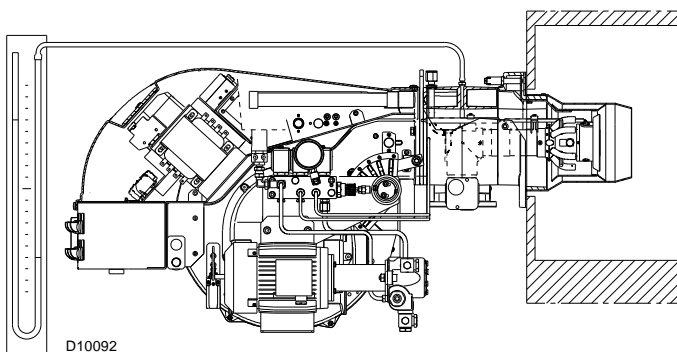

Fig. 46
- Fit a U-type manometer (Fig. 46) to the gas pressure test point on the sleeve. The manometer readings are used to calculate MAX. burner power using the Tab. K on page 35.